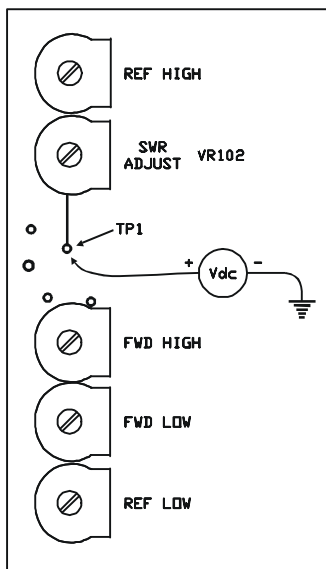

Figure 1
4. Refer to Figure 1. Apply enough RF to indicate 100 watts on the forward meter scale and measure the voltage at **TP1** (nominal .9 volts). Make a note of this voltage. Voltage A
The follow chart will tell how much to raise or lower the voltage measured in step 4 by adjusting VR102. (Figure 1)
5. Remove the back cover of the control unit and locate VR102 (refer to Figure 1).